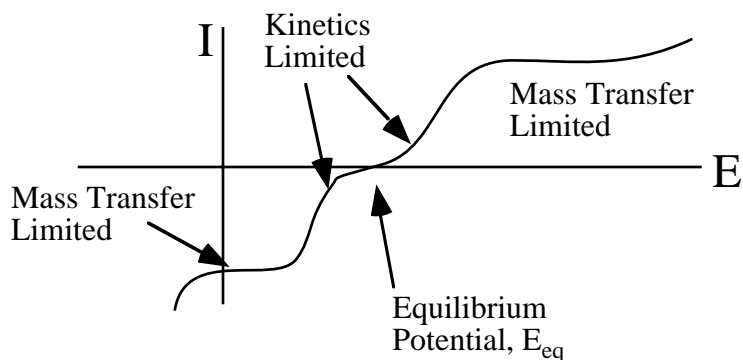

Figure 1. Schematic of typical current vs. potential behavior for an electrochemical system with high conductivity electrolyte.
Most electrochemical systems with high conductivity electrolytes display current vs. potential curves that look like Fig. 1. Three regions are shown in Fig. 1. The equilibrium potential ($E=E_{eq}$ @ $I=0$) sets the potential scale so we can know whether a given potential will cause an oxidation or a reduction reaction. If the electrode potential is set more positive than the equilibrium value, then an oxidation reaction will occur on the electrode. In ChemE 461, we denote oxidation by a positive current. Conversely, if the electrode is set negative of the equilibrium potential, then a reduction reaction will occur on the electrode, denoted by a negative current. **(Important Note: your textbook uses the opposite convention—positive current to denote reduction, negative current to denote oxidation.)**
where the sulfuric acid acts as an inert component that raises the conductivity of the electrolyte (sulfuric acid is called the supporting electrolyte). The reaction will proceed in the forward or backward direction, depending upon which direction the potential of the electrode is biased away from equilibrium. All potentials will be measured relative to a saturated calomel electrode (SCE) as the reference. In this experiment, you are going to use cyclic voltammetry (linear sweep of the potential from one end of the potential range to the other end) to get current vs. potential curves that resemble Fig. 1 (what are there differences, and why are they there?). The diffusivity of ferrous and ferric ions will be determined by fitting data from the mass transfer limited region of the cyclic voltammogram to Eq. (1). The mass transfer limited current data should be plotted in classic Levich plot form, with $|I_l|$ plotted against $\omega^{1/2}$.